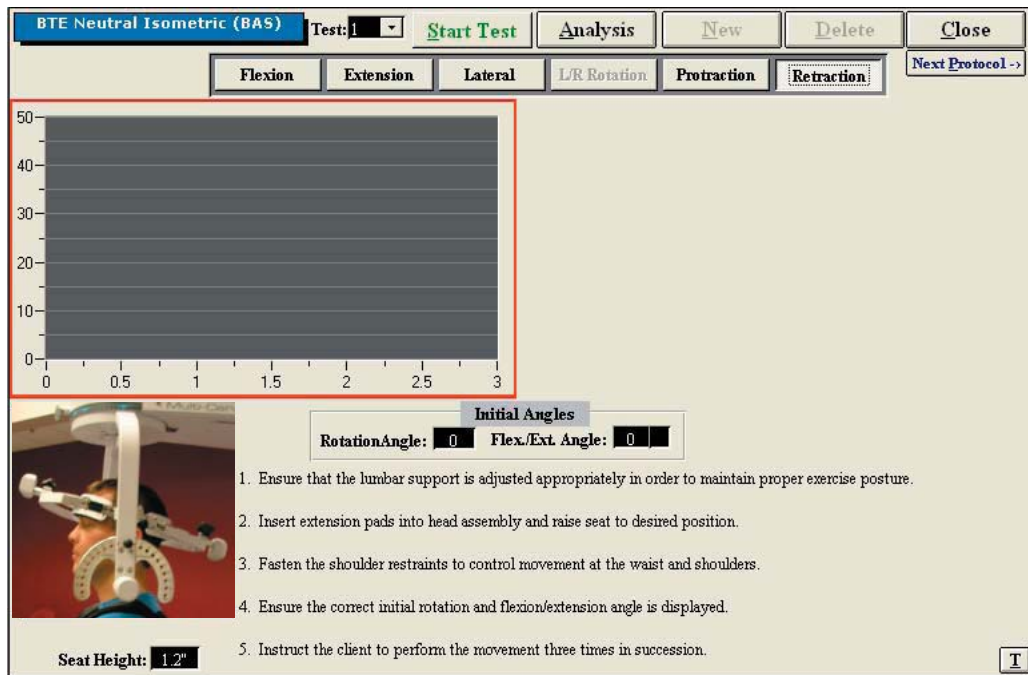

Figure 6-86. Cervical Strength - Retraction Test
Step 1. Select the **Retraction** icon. The Retraction Testing screen will appear (Figure 6-86). Note that the screen shown in the figure may differ from that on the computer.